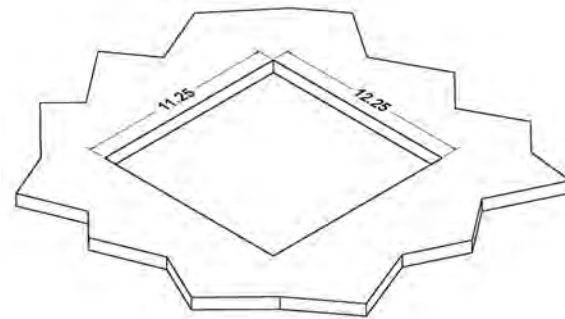

Figure 1 - Cutout Dimensions
Step 1 - Cut a 11.25" x 12.25" opening in the "hard lid" ceiling or wall (special cutting tools may be required – ref. Figure 1).